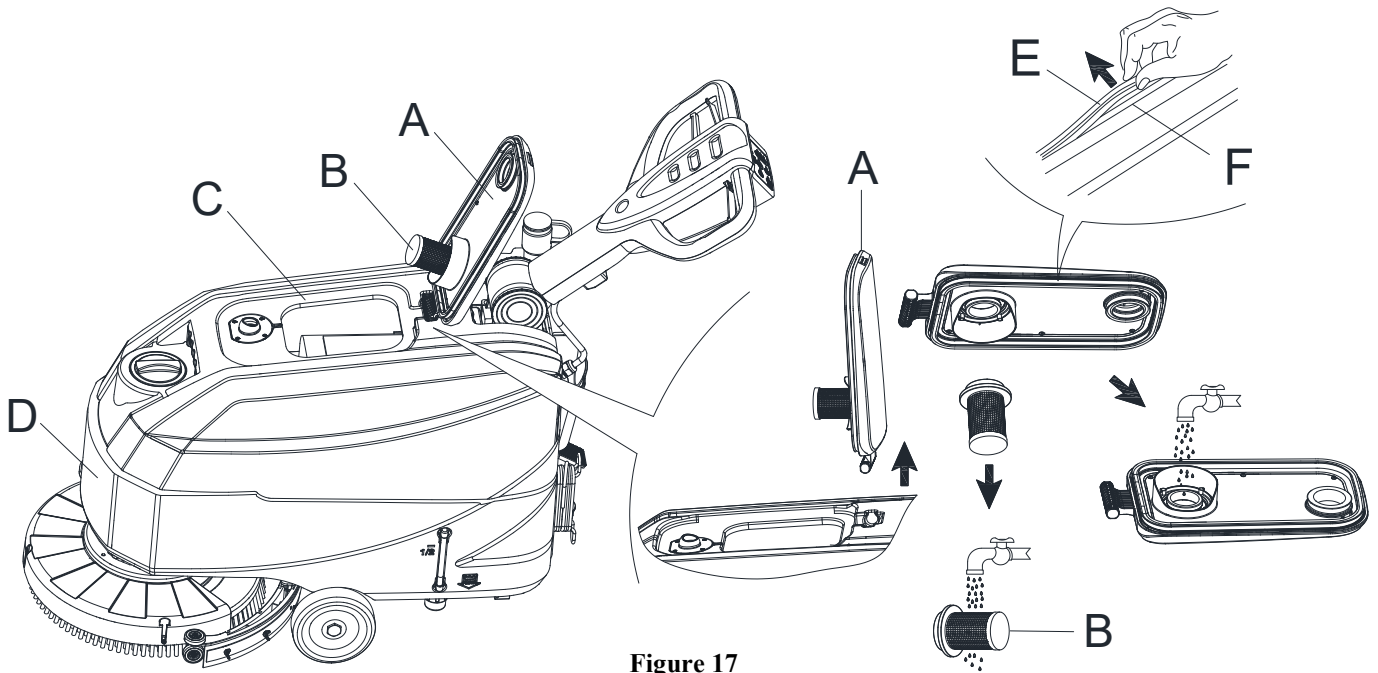

Figure 17
3. Turn the recovery tank lid (A, Figure 17) 90 degrees position where it can be taken off from the recovery tank, and then take out the float ball filter (B) from the recovery tank lid.
7. Check whether the contact surface of sealing strip (E) has integrity and sealing is sufficient. If necessary, take the sealing strip of the tank out of the groove (F) and replace it. Assemble the new sealing strip as shown in (Figure 17), the joint should be back in the middle area.
8. Close the recovery tank lid (A).